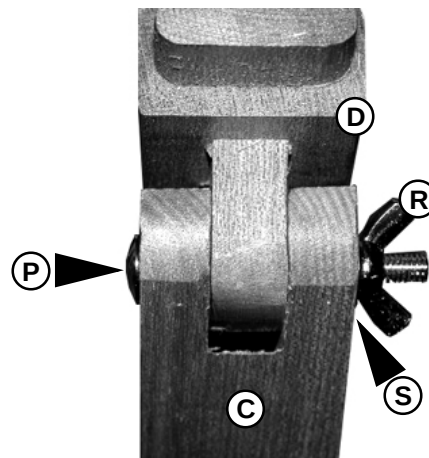

FIG 5
STEP 5. Attach Rear Spike Leg [C] to Metal/Wood Ratchet Column [D] by lining up notch and joiner, continue by inserting a 2-1/8" bolt [P] through all holes and secure with Washer [S] and Wing Nut [R]. See FIG 5 below.